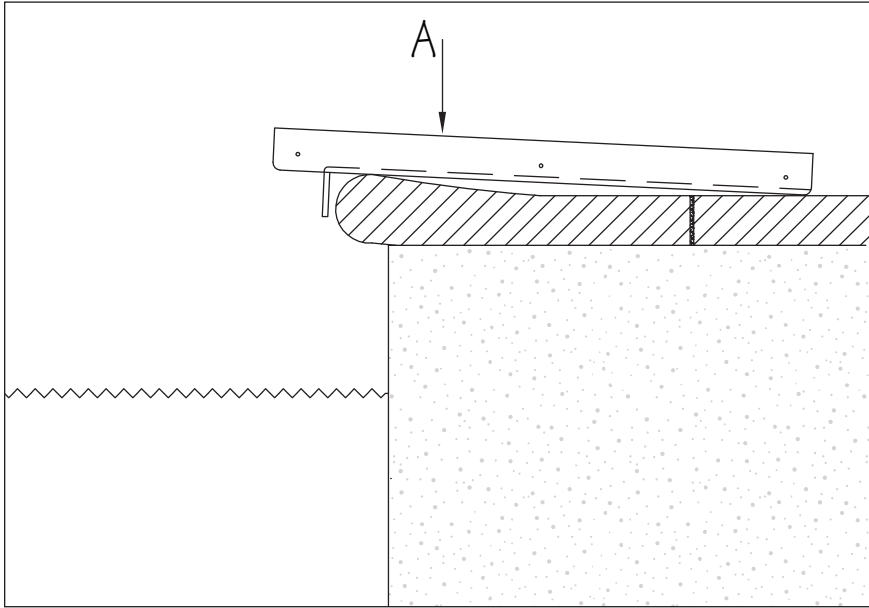

Fig. 14
1. Position the Deck Plate (A) onto the pool deck so that the vertical lip is seated firmly against the pool coping. The plate will be centered to the Current Unit. If the pool has bullnose coping, it is acceptable for the plate to be slightly out of level as shown in Figure 14.